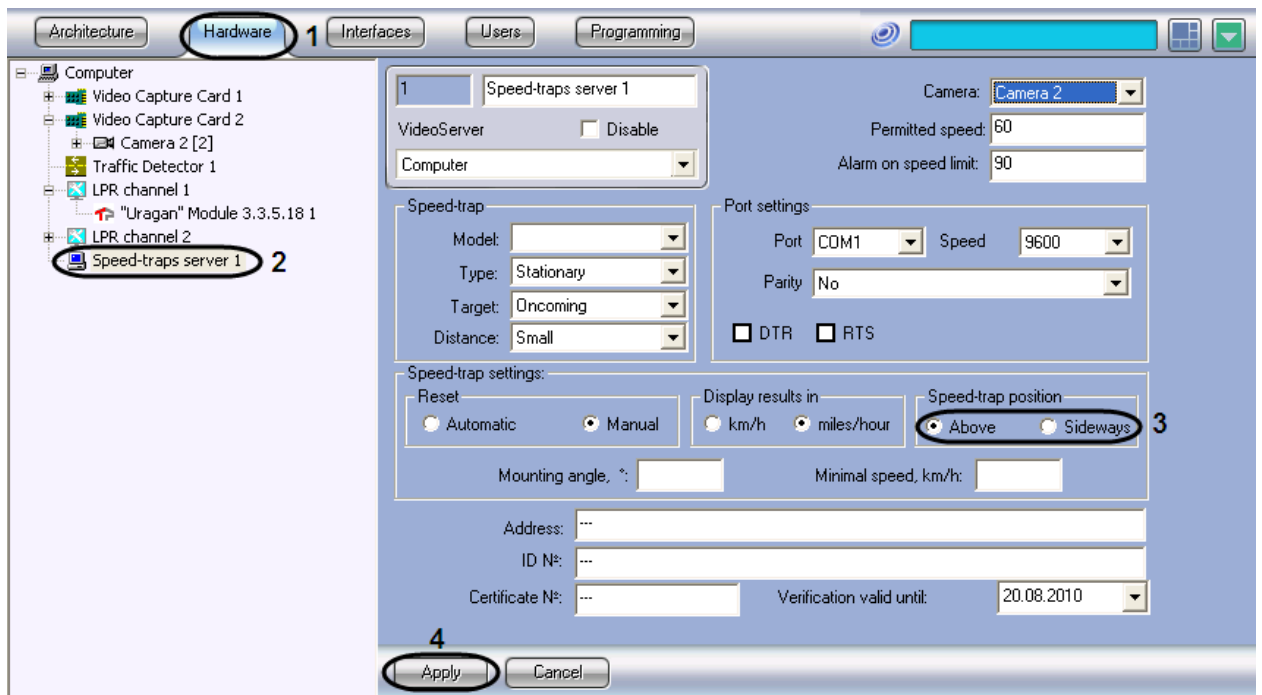

Fig. 7.3-10 Selecting the mounting position of the speed-trap
2. In the object tree on the left side of the Hardware tab, select the Speed-trap server object representing the Radar module to be set up. The settings panel of the selected object will open on the right side of the window (see Fig. 7.3-10).